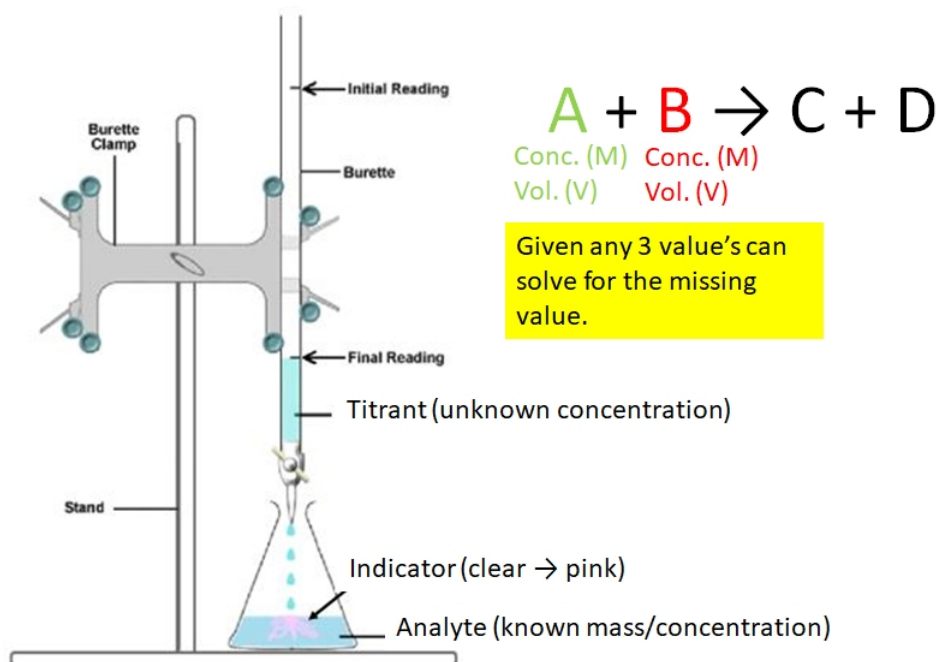

Figure 13.1: Typical setup for performing a titration. credit: author
The standard instrument used in titrations is the **Buret** which is a piece of calibrated glassware used to accurately measure volumes of liquids. Figure 13.1 shows a typical example. The buret is filled with the solution ($\text{Mg}(\text{OH})_2$) to be titrated and is often referred to as the titrant.
1. Place the Erlenmeyer flask containing the KHP sample under the buret as shown in Figure 13.1.